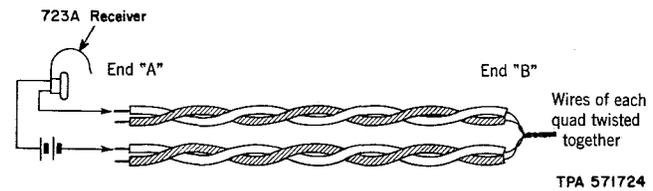

Fig. 8—Test For Split Quads
4.08 At end (A) test each quad in the first group for splits as shown in Fig. 8. If the cross at end (B) is not picked up at end (A) the quad is split. Tag the quad for further test.